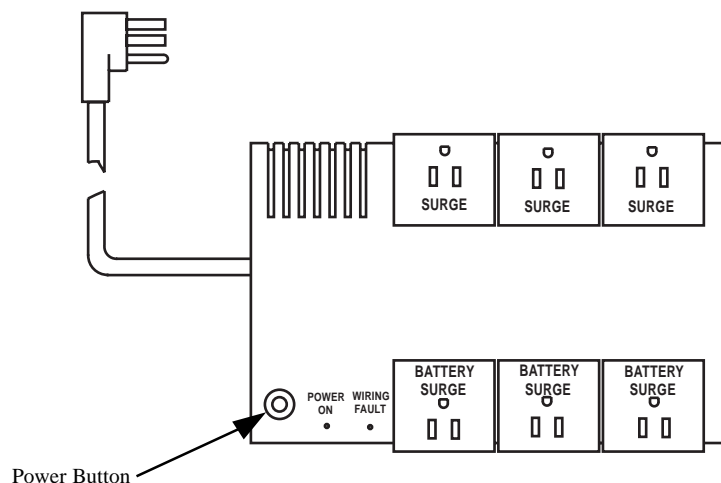

Figure 2-1
UPS	See Figure 2-1
2. Unplug the CC from the UPS (see figure 2-1).
- Press the red button (figure 2-1) at the front left of the UPS. The UPS will beep once and a green LED will light to indicate it is on.